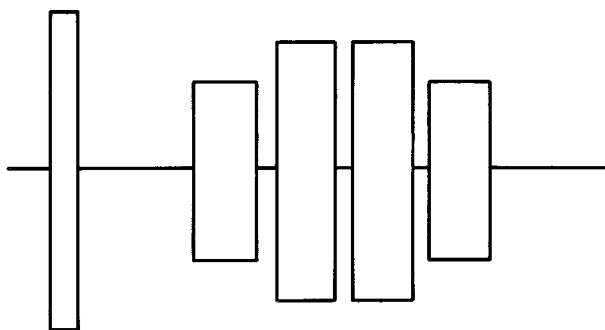

Fig. 5-3 Azimuth burst
- 3) Synchronise the probe of the oscilloscope by TP9 of PCB and connect another probe to TP1, and the probe ground to TP3, TP11 (ground). Set the input to AC, the vertical axis to 10 mV/DIV, and the horizontal axis to 0.5 msec/DIV. Make sure that the two outside burst waveforms are smaller than two inside burst waveforms as shown in Fig. 5-3.